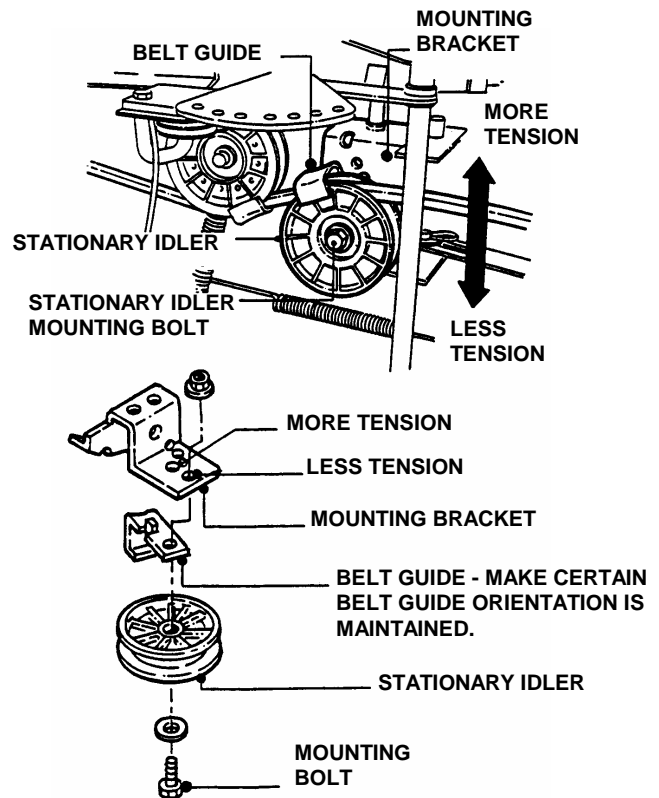

FIGURE 4.16
4. Remove the traction drive belt stationary idler mounting bolt. See Figure 4.16.
**NOTE:** Should less tension be required move stationary idler towards right side of tractor. See Figure 4.16.